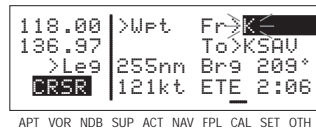

Figure 3-36
3. Rotate the right inner knob to select the first character of the waypoint identifier (figure 3-36).